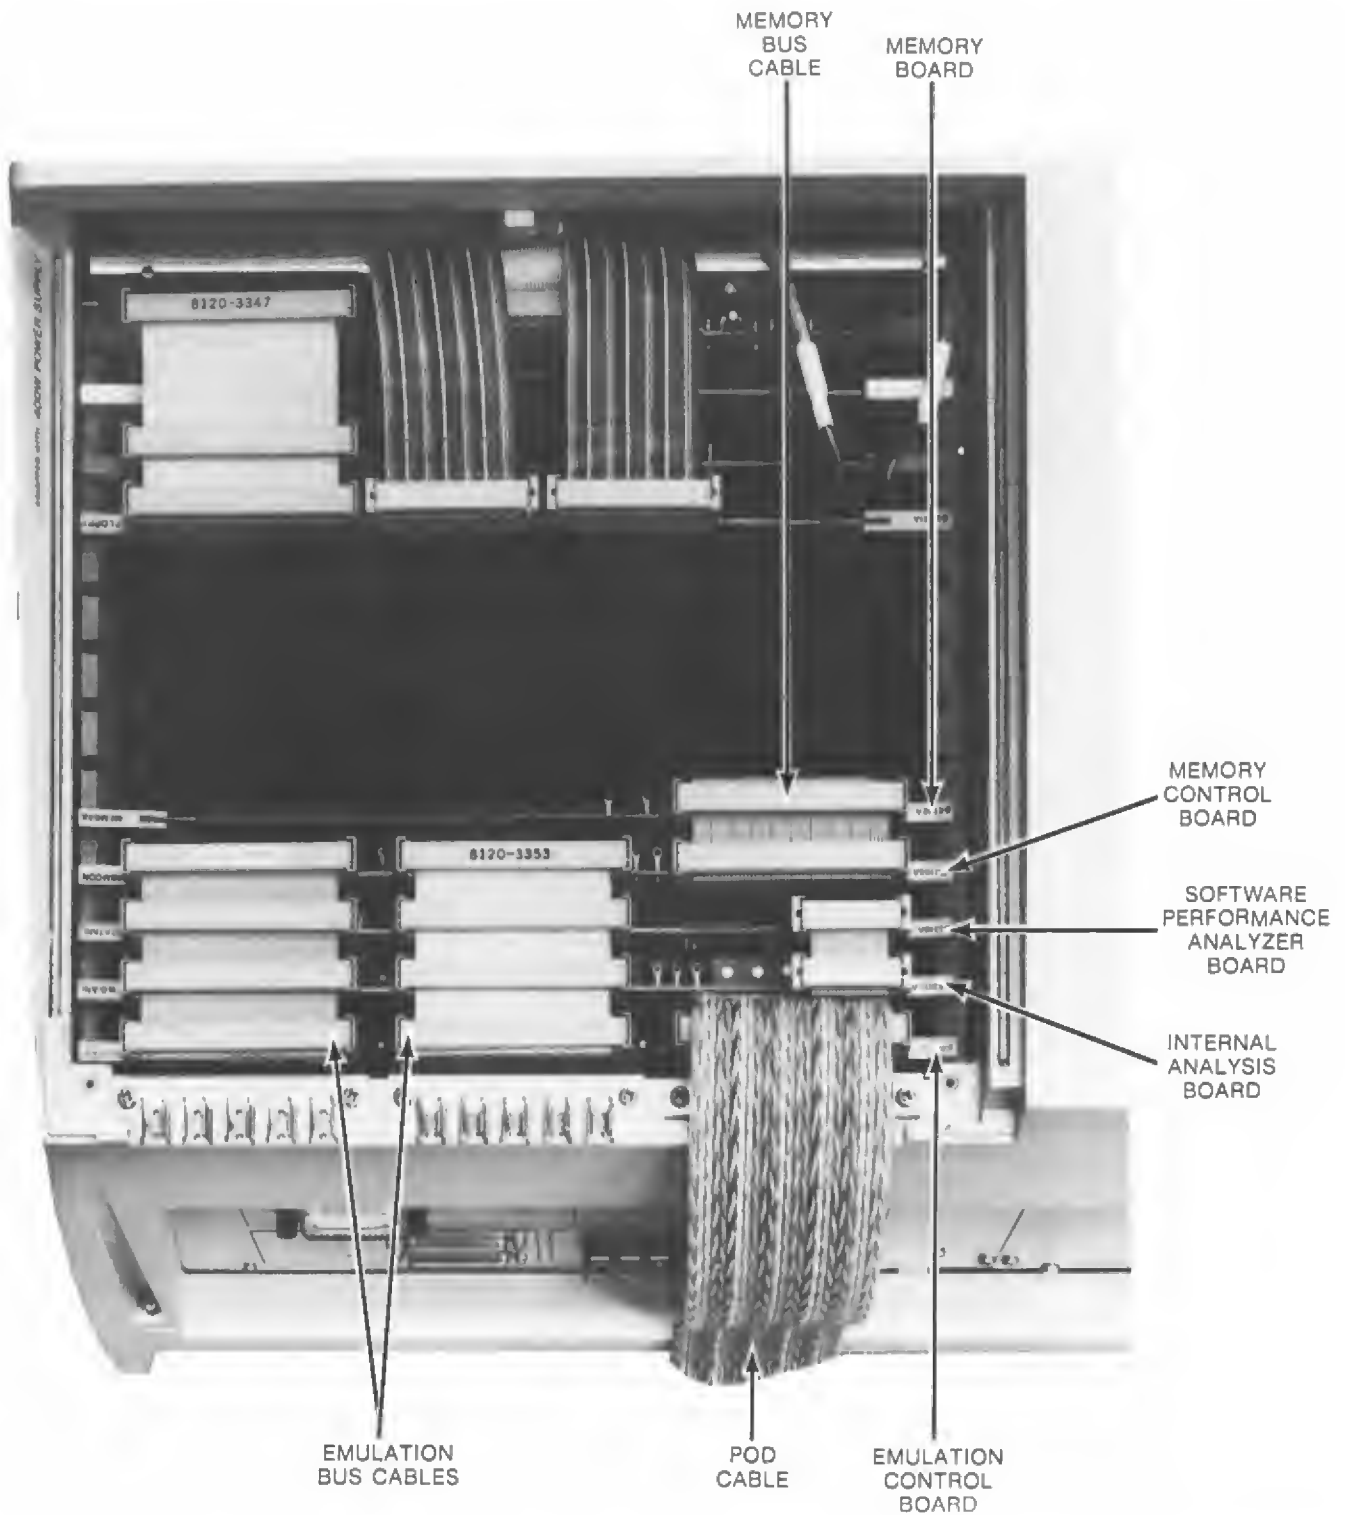
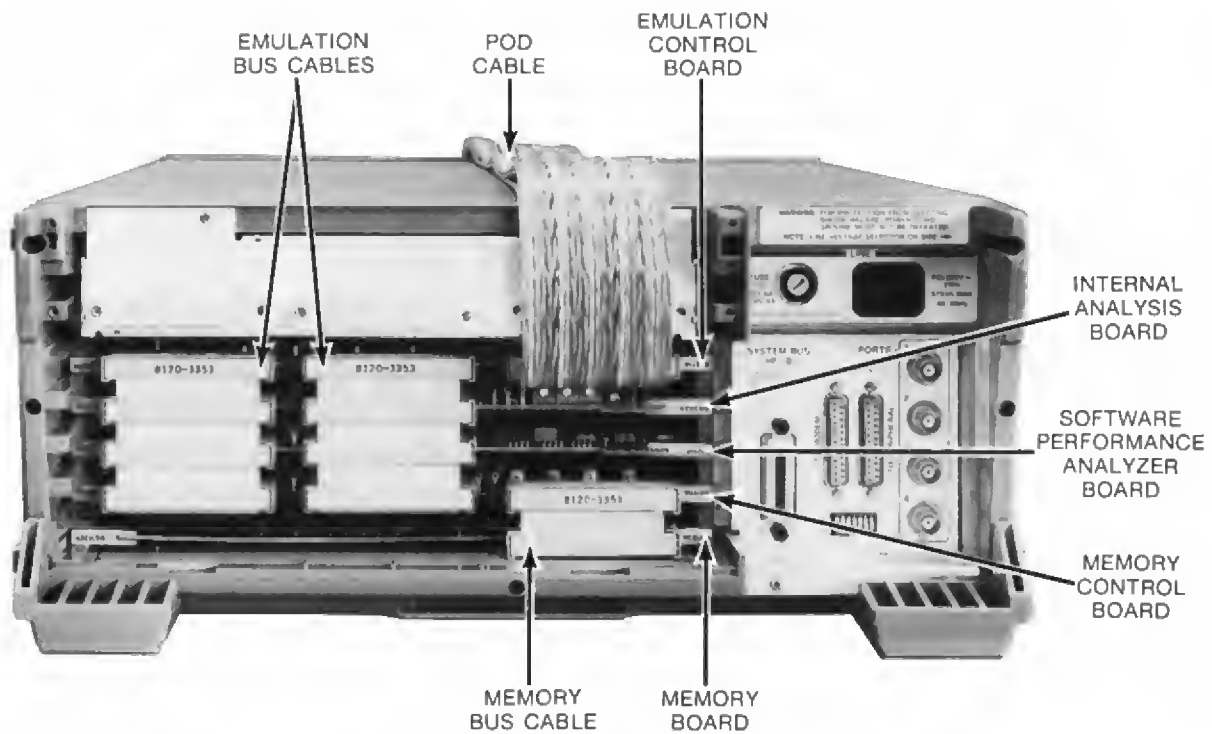

Figure 3-1. Installation Details for a 64100A Mainframe
Figure 3-2. Installation Details for a 64110A Mainframe
Figure 3-1 shows typical installation details for a 64100A mainframe and figure 3-2 shows typical installation details for a 64110A mainframe.
f. Install the emulation bus cables on the top of the boards. See figure 3-1 or figure 3-2 for locations of the emulation bus cables. Be sure to align pin 1 of the cable connectors with pin 1 of each of the board connectors. Pin 1 on the cable assemblies is identified by three indicators: a number 1 molded into the connector face, a color dot pasted on the end of the connector, and the heaviest blue wire on the side of the cable.